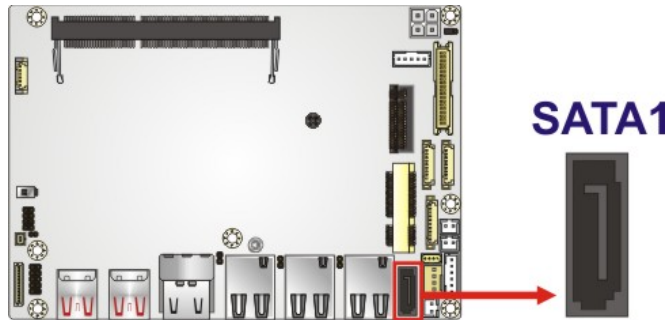

Figure 3-18: SATA 6Gb/s Drive Connectors Location
- CN Location:** See **Figure 3-18**